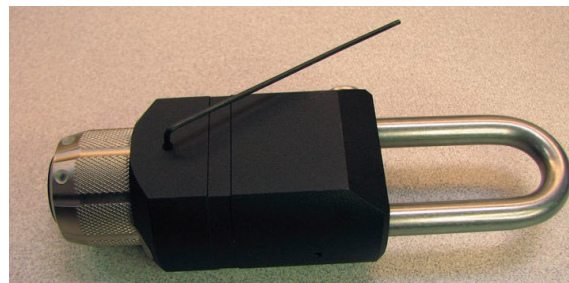

Figure 1: Allen Wrench in Pin Hole
2. Insert a 1/16" Allen wrench into the hole on the back as shown in Figure 1